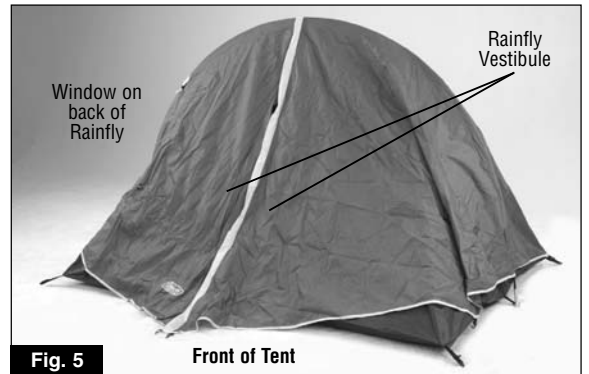

Fig. 5
1. Drape rainfly over tent. Make sure vestibule and window on the rainfly are positioned over the tent door and the window on the tent. (Fig. 5)